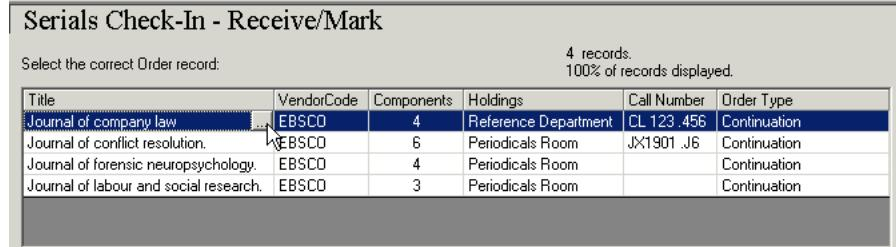

Figure 9-17. Accessing the MARC record
1. From the **Serials Check-In** workspace, click on a title, then on the **ellipsis** in the Title column (see Figure 9-17).